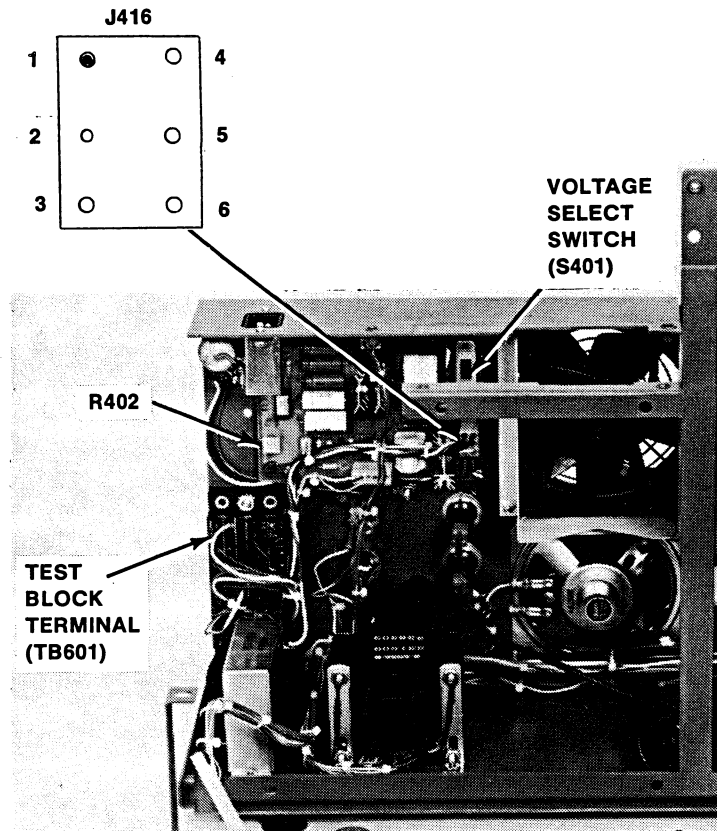

Fig. 4-19. Connections for Diffusion Pump Power Adjustment
2. Install an ac voltmeter (on a scale above 120 volts) between test block terminal TB601, pin 41 and J416, pin 4 (Fig. 4-19).
5. If the MTTP is below 80 milliTorr, adjust potentiometer R402 (Fig. 4-19) to increase the voltage by 5 volts. (See step 7 for MTTP above 100 milliTorr and step 9 for MTTP between 80 and 100.)
Install an ac voltmeter (on a scale above 120 volts) between test block terminal TB601, pin 41 and J416, pin 4 (Fig. 4-19).